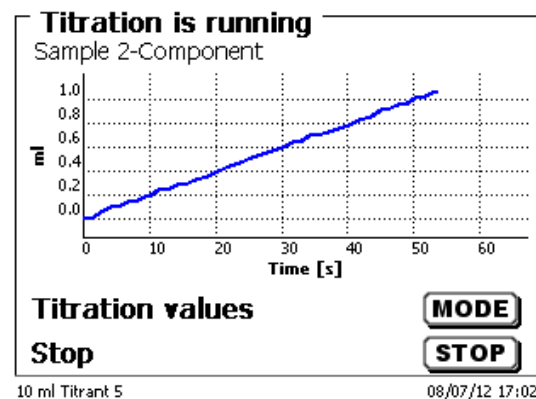

Fig. 77
- or the titration curve in ml/time [s] appears (Fig. 77).